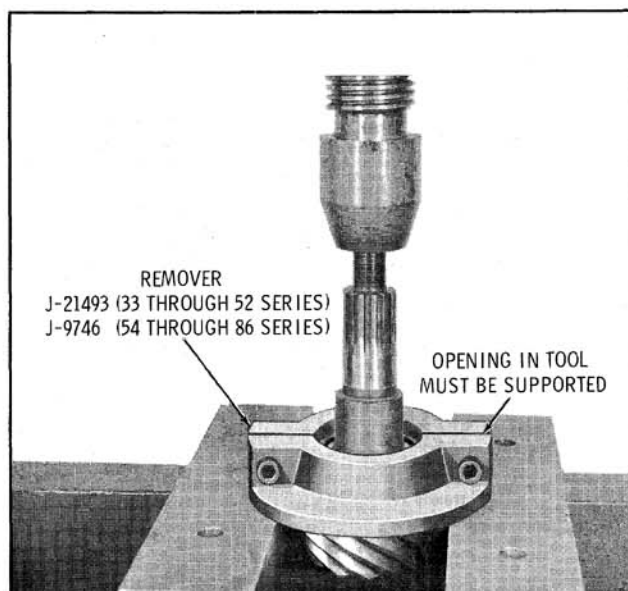

Fig. 10-19 Removing Pinion Bearing
1. With drive pinion removed from carrier, press bearing from the pinion gear as shown in Fig. 10-19.